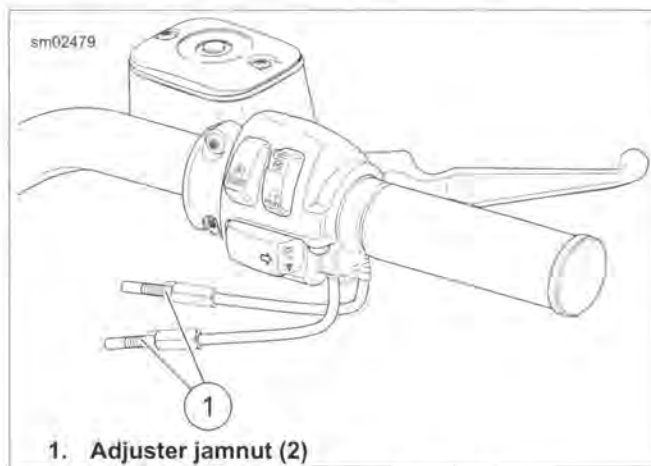

Figure 2-112. Handlebar Throttle Control
1. See Figure 2-112. Loosen cable adjuster jamnuts.